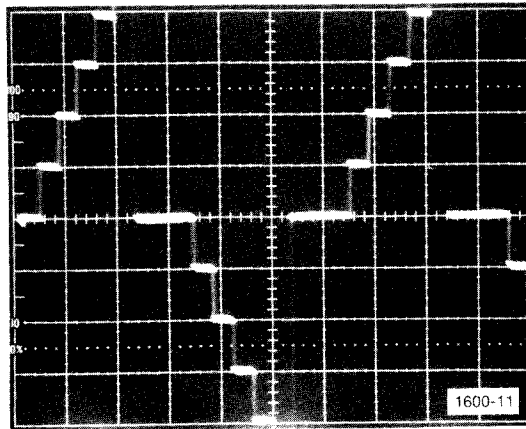

Fig. 2-13. Triggered display of calibration fixture Gain waveform.
d. Set P7001 DISPLAY SOURCE to MEMORY, MEMORY LOCATION to B, and DATA HANDLING to STORE, START. This will rotate the waveform 90 degrees because P180 is reversed. See Fig. 2-13.
d. Use the Variable Sweep Rate and Trigger Level controls to obtain a stable trace. Use the Position control to set the longer steps on the graticule center line. Adjust A7704 A INTEN if needed. See Fig. 2-13.